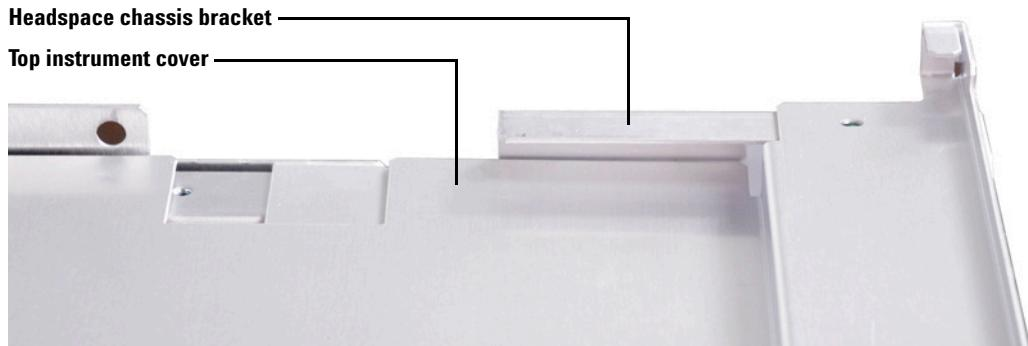

Figure 23 Top instrument cover installed correctly
- Be sure that the top instrument cover sits below the headspace chassis bracket as shown in Figure 23.